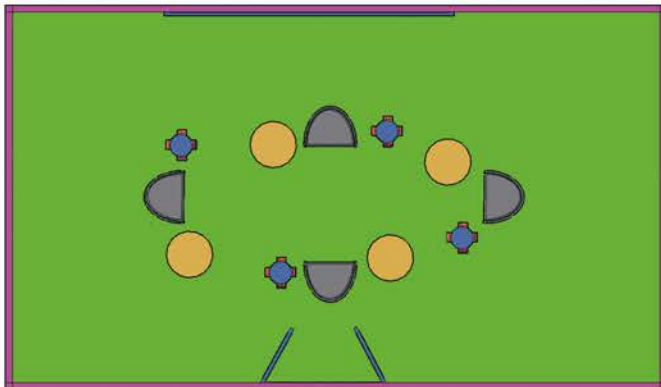

Fig. 16.42 Top view of the furniture inserted, copies and places in position
3. Insert the table, copy it three times and move the copies to suitable positions (Fig. 16.42).